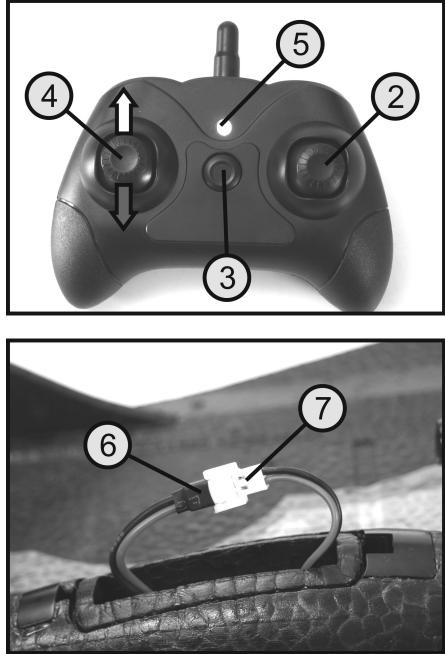

Figure 9
On the transmitter, move the joystick for speed control (see also fig. 1, pos. 4) to the lowest position (see dark arrow in fig. 9).
For the motors to be started, the joystick for speed control must be moved all the way up (see bright arrow in fig. 9) and then all the way down (see dark arrow in fig. 9).